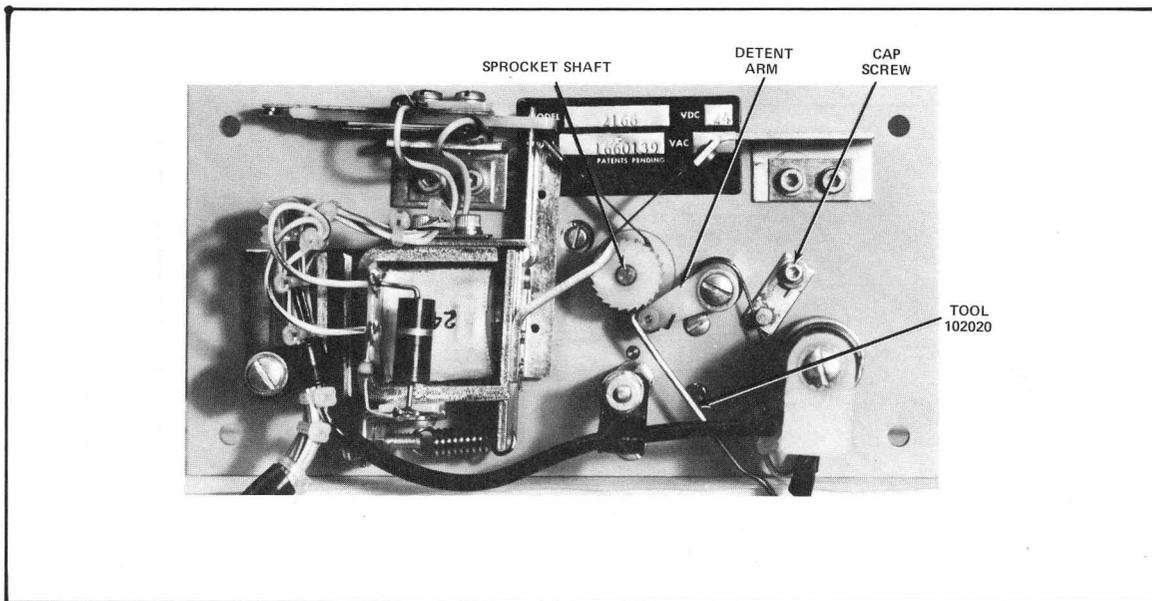

Figure 6-2 Sprocket Shaft and Detent Arm
The detent arm prevents rotation of the sprocket during energization of the drive magnet. See Figure 6-2.
- (1) Check tension of the detent arm spring. See Figure 6-2. Using spring scale (see Table 7-1), the tension required to start moving the detent arm away from the ratchet is 12 ounces ( $\pm 1/2$  ounce).
- (2) To adjust detent arm spring tension, loosen socket head cap screw and reposition spring post assembly and tighten cap screw. See Figure 6-2.
- (3) Repeat step (1).